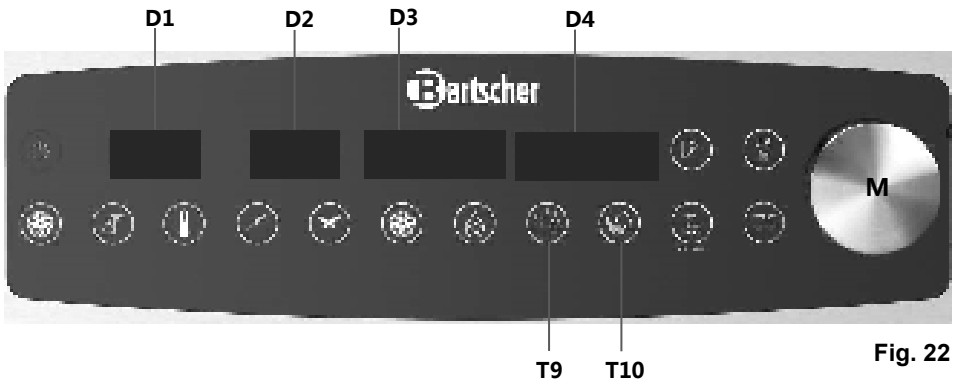

Fig. 22
3. Press knob **M** (fig. 22) and key **T10** (fig. 22) simultaneously.
3. Press knob **M** (fig. 22) and key **T9** (fig. 22) simultaneously.